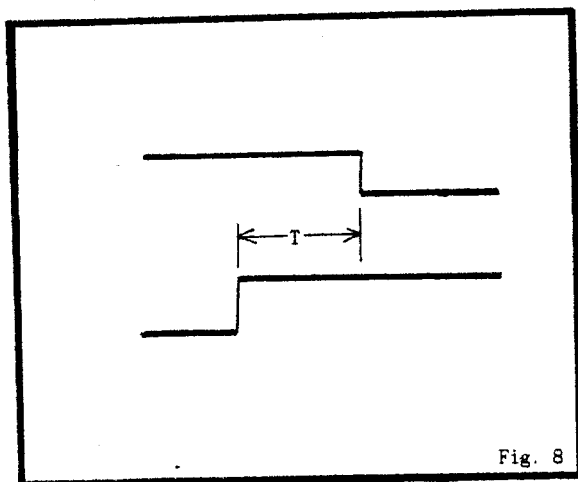

Fig. 8
- (1) Connect CH-1 on the oscilloscope to TP2001 and connect CH-2 on the oscilloscope to TP2005.
- (2) Adjust VR2003 so that the "T" portion measures $0.45 \pm 0.1 \text{msec}$ as shown in Fig. 8.